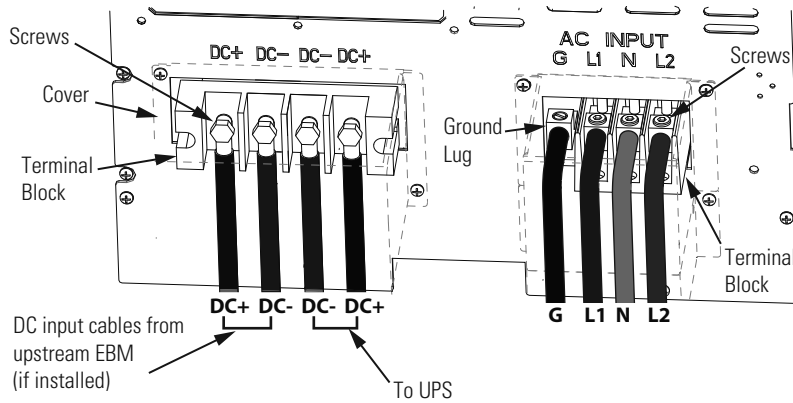

Figure 37. Battery Cable Assembly Installation.
1. Route the EBM DC input/output and AC input cables to the terminal blocks as shown in Figure 37.